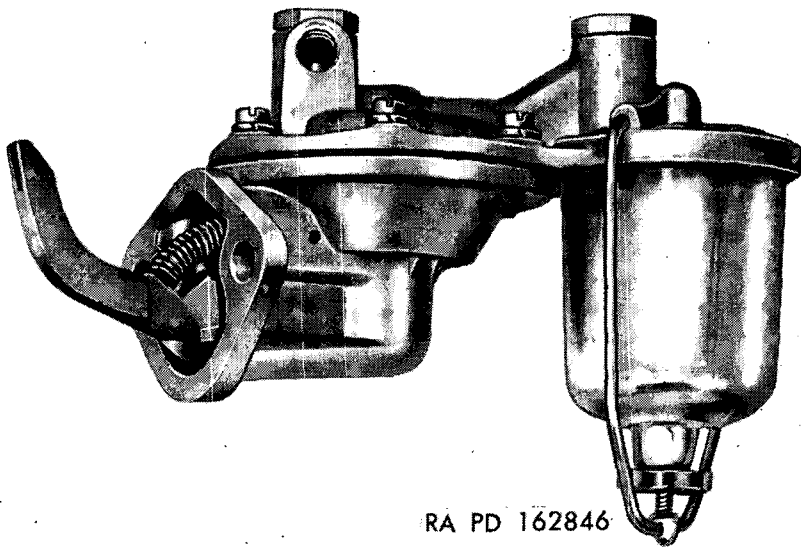

Figure 20. Fuel pump, series W.
- (1) Mark edges of top cover and body (fig. 21) of series W fuel pump (fig. 20) with a file. Mark at heat shield stud, if used. The parts may then be assembled in the same relative positions and heat shield stud properly located.
- (2) Remove cover screws and lock washers. Also remove heat shield stud, if used. Separate cover from body by jarring cover loose with a light plastic hammer.